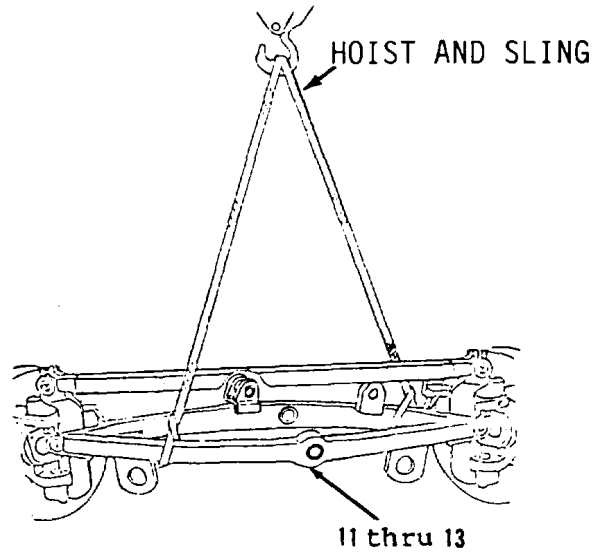
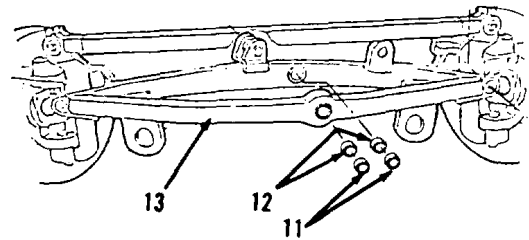

Figure 5-70.
Figure 5-71.
6. Using hoist and sling, remove items 11 thru 13 as an assembly (Figure 5-70).
8. Using suitable driver, remove two seals (11) and bearings (12) from axle (13, Figure 5-71).
1. Using pulling adapter, puller assembly, washer, screw and nut, install two bearings (12) 0.282 inch from each surface of axle (13, Figure 5-71).
2. Install two seals (11) with lips toward outside surface and even with outside surface of axle (13).
3. Attach hoist and sling to items 13 thru 11 as an assembly (Figure 5-70).
4. Position items 13 thru 11 as an assembly on vehicle.